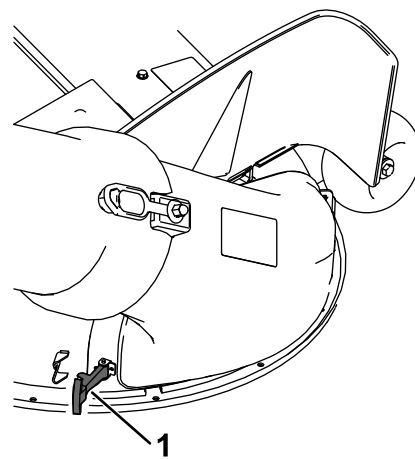

Figure 23
4. Secure the chute to the mower deck by hooking the flexible latch on the chute into the retainer on the deck (Figure 23).